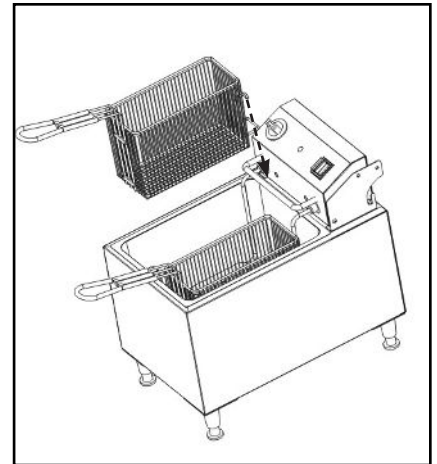

Fig. 11-1
5. Once the food is cooked, carefully lift the baskets from the oil/fat and allow the baskets to rest on the supports (Fig. 11-1). This will allow any excess oil/fat to drain back into the oil pan.